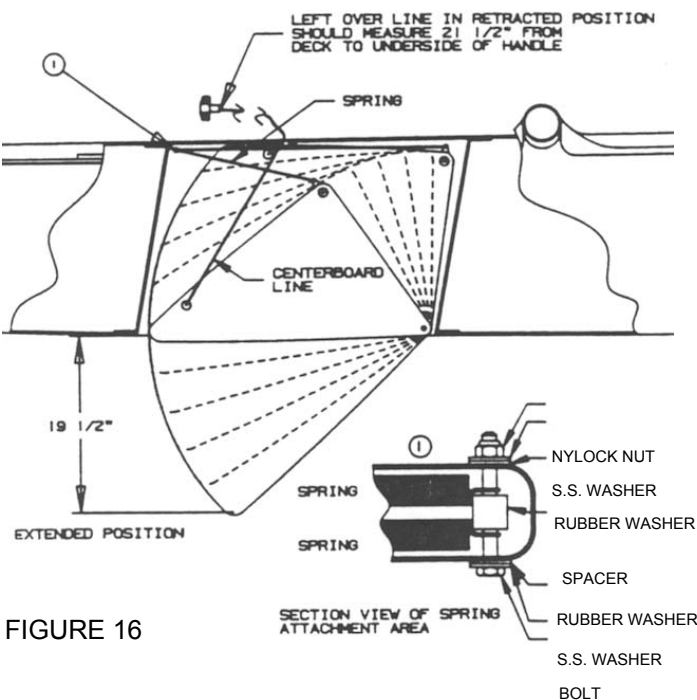

FIGURE 16
11.1 When the handle is lifted slightly and moved forward in the key slot, the board is free to descend. Several adjustment knots can be placed in the line to permit the boards to extend to a variety of depths. When the board is fully extended it should reach 19 1/2 inches (49.5cm) as measured from the bottom of the hull to the tip of the board. When the board is fully retracted, the centerboard line should measure 21 1/2 inches (51.6cm) from the deck to the underside of the centerboard handle. To raise the board, pull up on the handle and slide the line into the key slot just below the last figure-eight knot. (FIGURE 16)